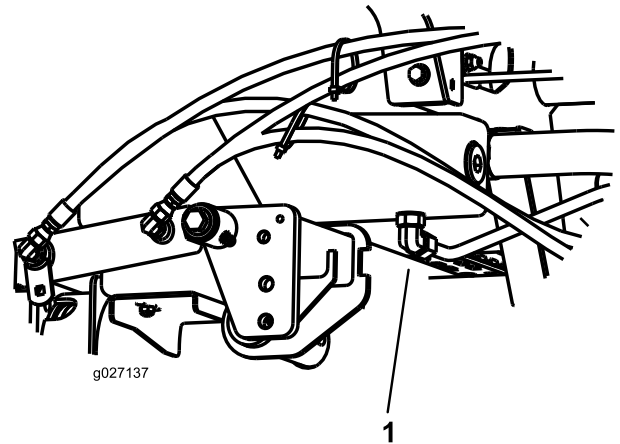

Figure 73
3. Place a large drain pan under the fitting secured to the bottom of the hydraulic-fluid reservoir (Figure 73).